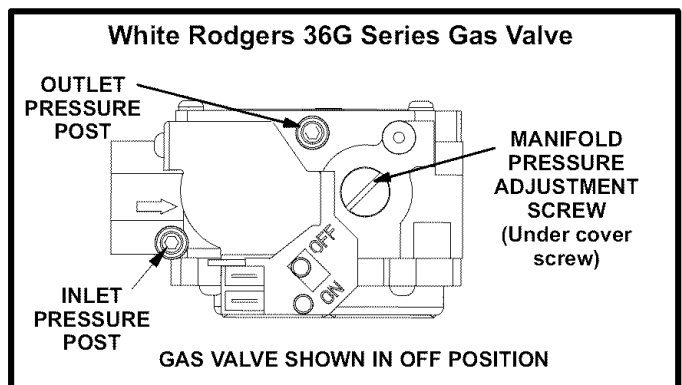

FIGURE 29
*White Rodgers 36G Gas Valve* - Move gas valve switch to **OFF**. See figure 29.
*White Rodgers 36G Gas Valve* - Move gas valve switch to **ON**. See figure 29.